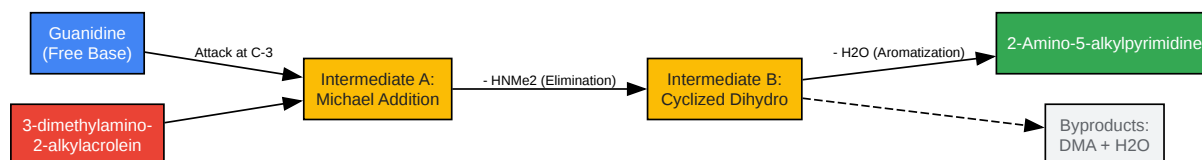

Fig 1. Condensation mechanism. Note that elimination of Dimethylamine (DMA) drives the first step.
- Temperature Ramp: Do not dump reagents into refluxing solvent. Combine at Room Temperature (RT), stir for 1 hour to allow the initial Michael addition (Intermediate A in Fig 1) to occur, then ramp to reflux to drive the aromatization.